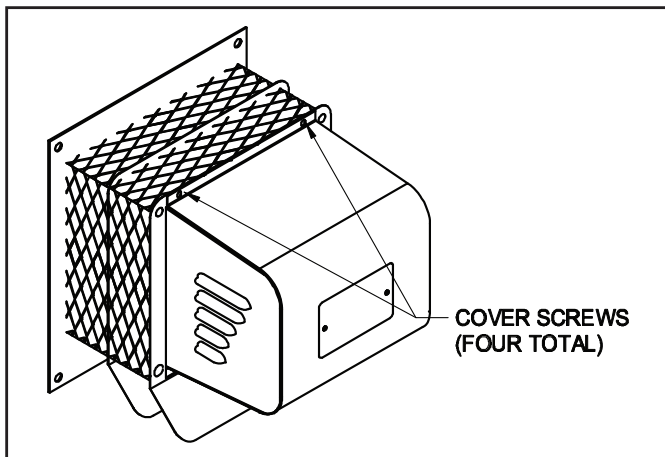

Figure 9
1. Remove the screws securing the motor enclosure cover. (See Figure 9)
1. Remove the motor enclosure cover by loosening the four screws. (See Figure 9)